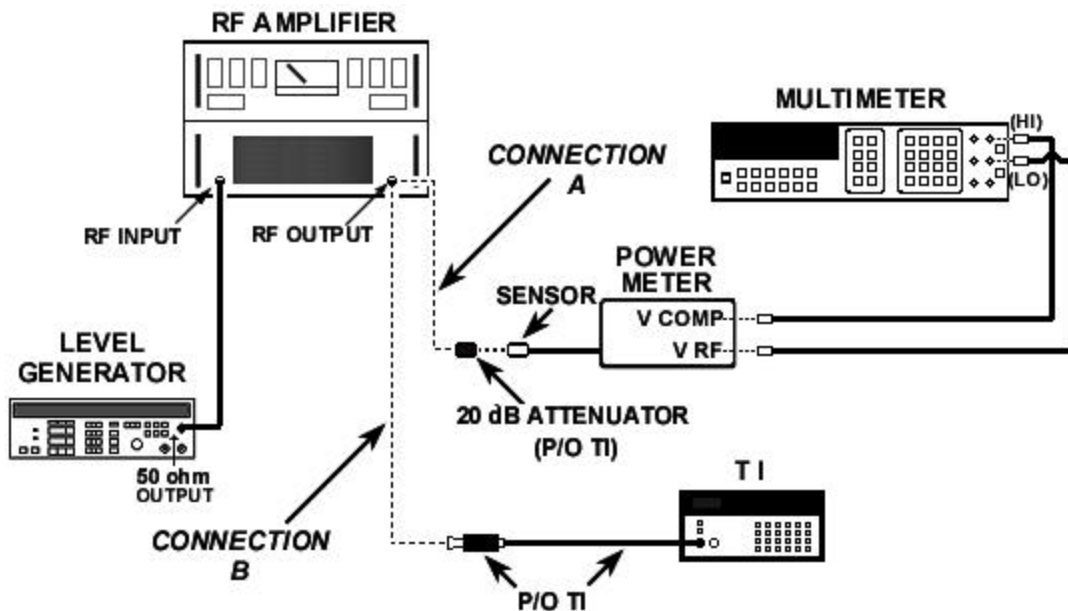

Figure 2. +15 and +25 dBm accuracy – equipment setup.
(9) Position level generator controls for a 50 MHz, -86 dBm output and connect equipment as shown in figure 2, CONNECTION A.
(14) Disconnect cable from input of amplifier and connect equipment as shown in figure 2, CONNECTION B.
(15) Reconnect cable to input of amplifier. If display does not indicate power recorded in (13) above  $\pm 0.18$  dBm, perform **b**(32) through (51) below, and (52) through (54) for (16) below.
(16) Repeat technique of (9) through (15) above for a power level of +5 dBm in (10) above.